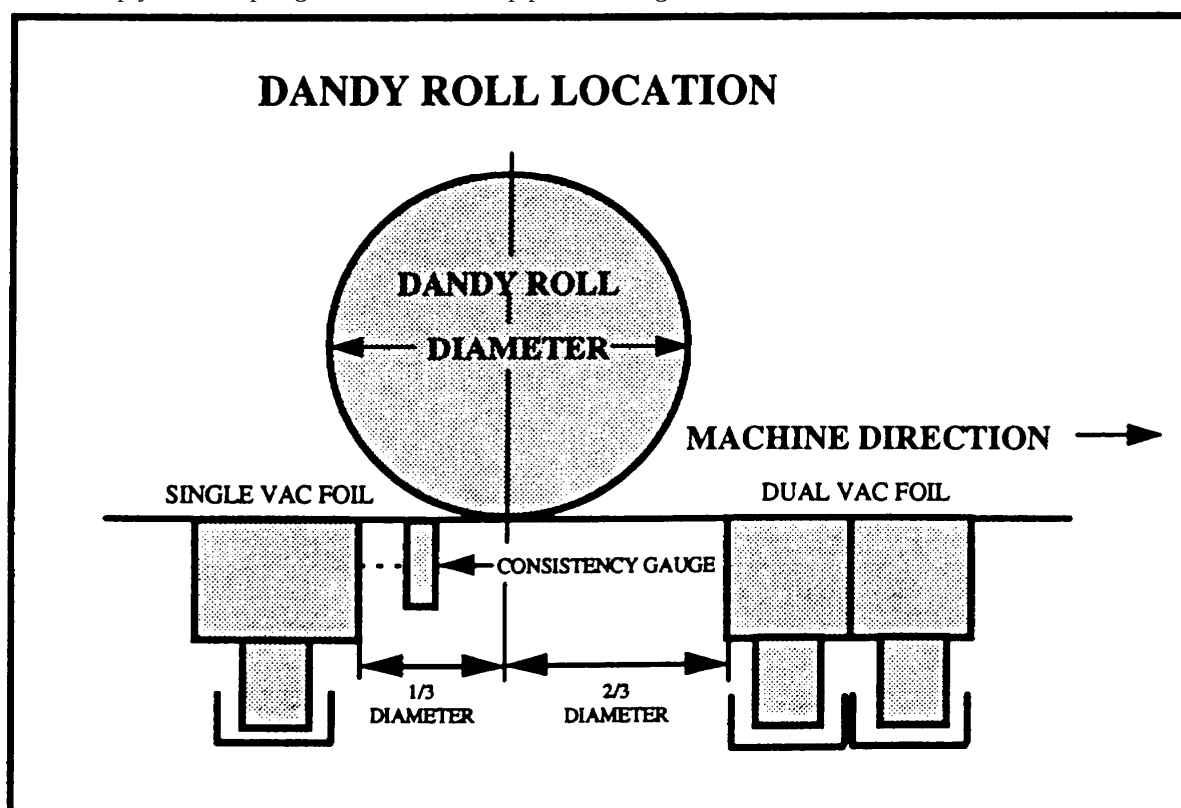

Fig. 1. Dandy roll location (5).
- a. Diameter-** Generally, dandy roll diameter is selected based on machine speed in combination with the criterion of maximum dandy roll speed of 150-160 rpm (4, 5). (See speed discussion below.) The larger the roll, the wider the nip at a given depth into the sheet; and the smaller the angle of the roll surface leaving the wet web, reducing the chance of fiber being pulled away from the sheet surface (3).
- b. **Position-** The open area under the dandy roll should be equivalent to the diameter of the dandy, to provide a natural cushion for the roll and permit running the sheet wetter without crushing (4,5). See Figure 1.
- c. **Orientation-** The dandy roll should be placed so that one-third of the open area is upstream of the dandy roll centerline, to minimize water throwing (4). See Figure 1.
- d. **Speed-** Generally, dandy roll revolutions per minute should be less than 150-160 rpm, with speed 0.5 to 2% faster than the wire for optimum formation and minimum picking and throwing (2,4,5,6). On some machines formation and surface characteristics are improved by overspeeding the dandy roll up to 3-4%, but at higher overspeed levels the stresses in the dandy roll cover can reduce life of the seam (5). Also, if dandy roll speed is too high (diameter is too low), water drop trajectory downstream is larger, causing drops to land on the dry sheet creating water spot problems (1).
- e. **Drive-** A precision variable speed AC or DC drive linked to the dandy roll through a timing belt or direct drive to insure positive drive is recommended (2,5). Recommended horsepower requirements are based on roll diameter and machine width (5).